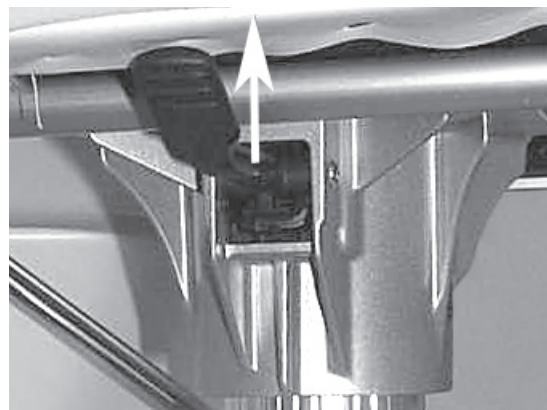

Figure N9: “Rotate” Handle - Released to Rotate
3. Locate the “Rotate” handle under the bucket seat. Lift upward on the handle to release the lock. This will allow you to rotate the seat. See Figure N9.